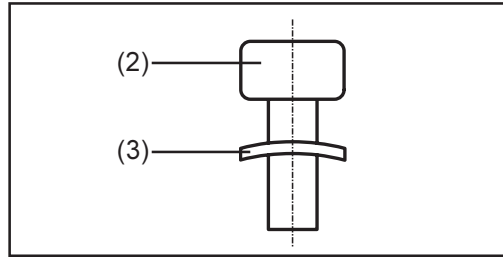

Fig.21 Fitting the cup springs
- mount the screws (2) with cup springs (Fig.21)
Note! When mounting the cup springs (3), make sure that they are fitted in the correct position (Fig.21)